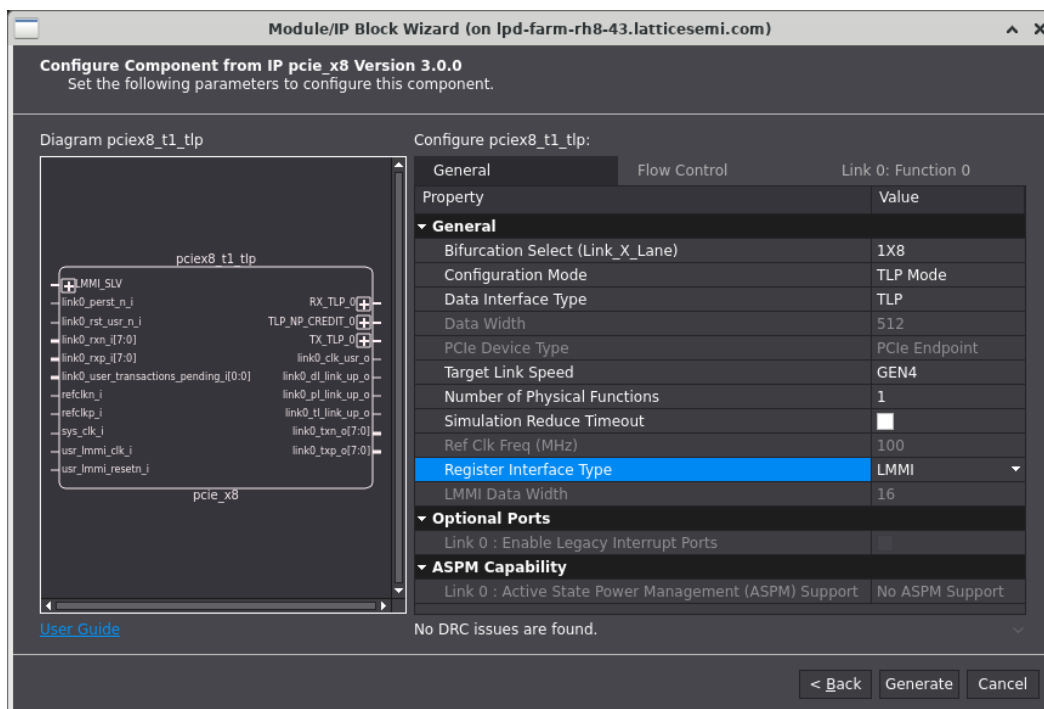
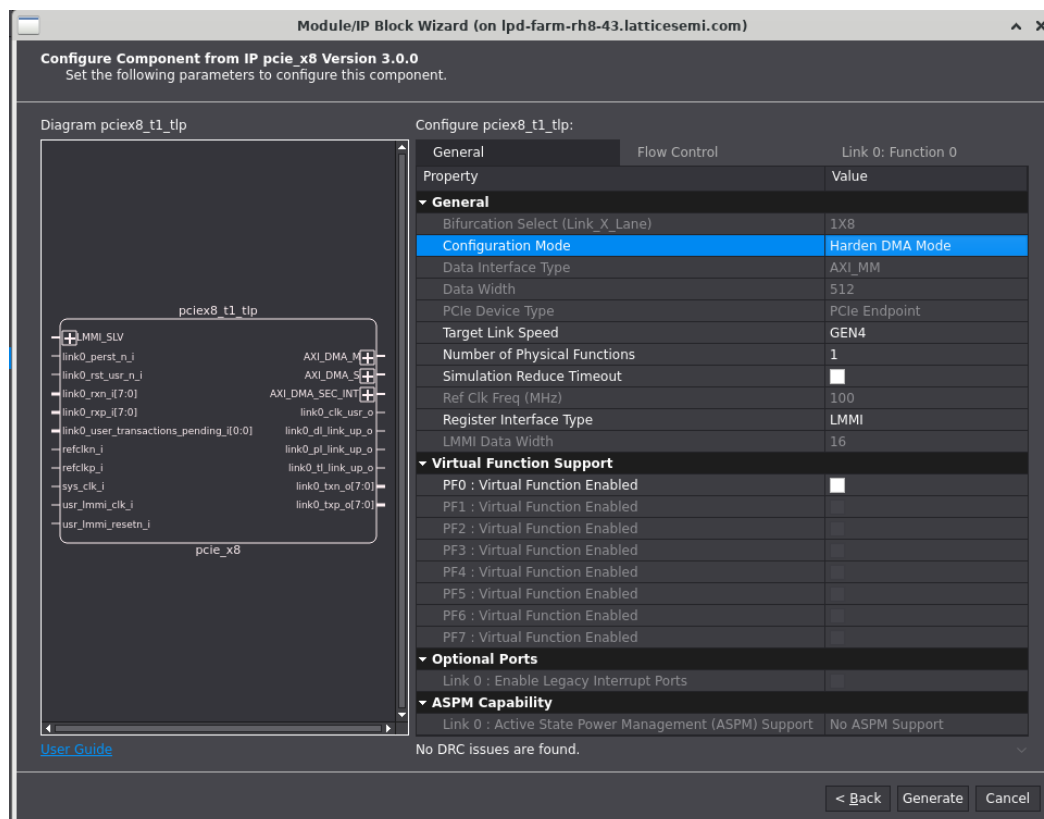
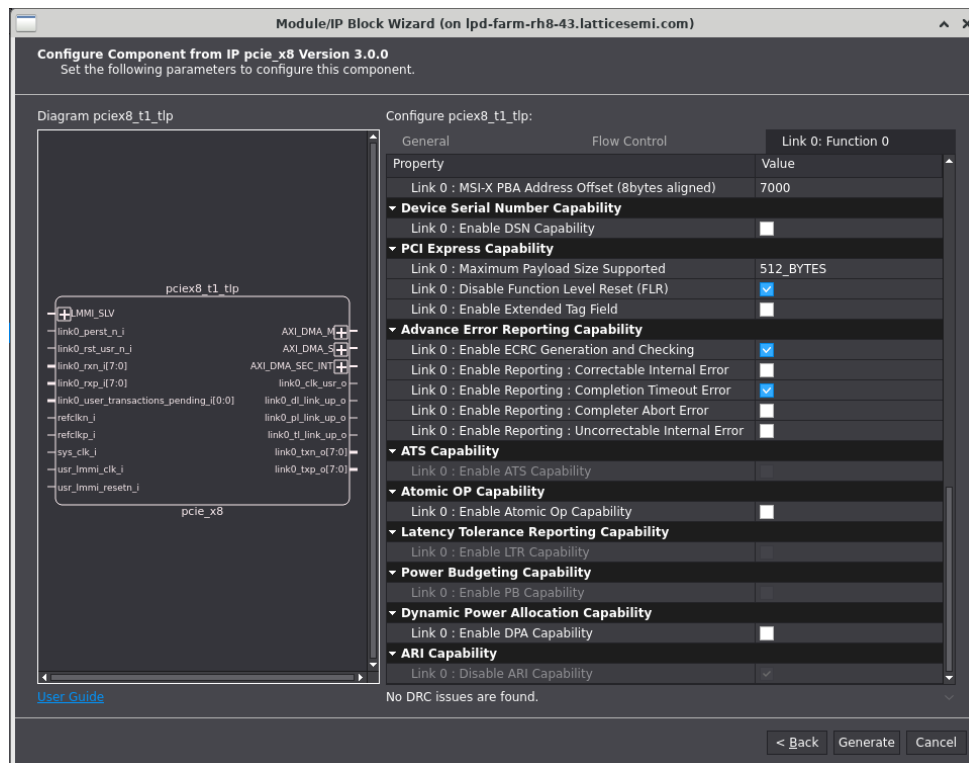

Figure 7.2. IP Configuration for Non-DMA
Figure 7.3. IP Configuration for Hardened DMA (General Tab)
Figure 7.6. IP Configuration for Hardened DMA (Link 0: Function 0 Tab) Part 3
3. In the next **Module/IP Block Wizard** window, customize the selected PCIe x8 IP using drop-down lists and check boxes. Figure 7.2 shows an example configuration of the non-DMA PCIe x8 IP. For the hardened DMA example design support, Figure 7.3 to Figure 7.6 show the example configuration of the hardened DMA PCIe x8 IP. For details on the configuration options, refer to the IP Parameter Description section.